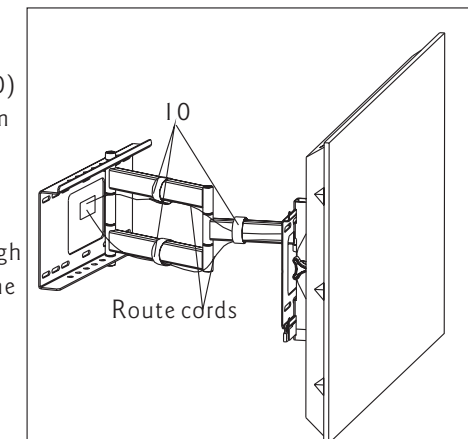

Fig 4a
Remove the Cord cincture(10) from box. Use Cord cincture(10) bind Route cords to Cantilever Arm in needful location. As shown in Fig. 4a.